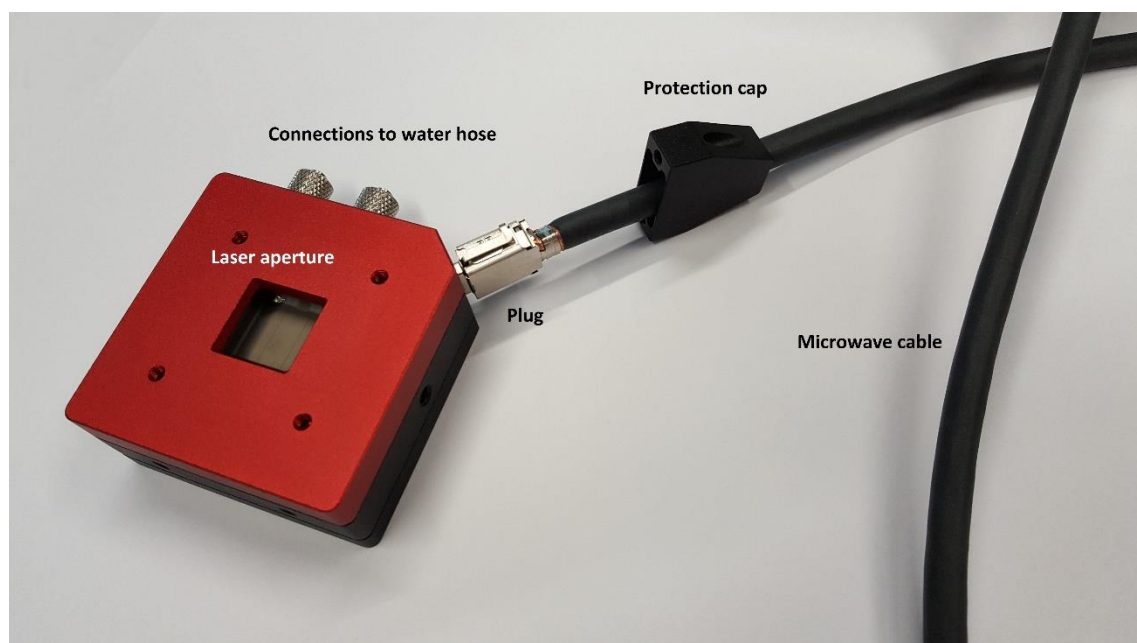

Figure 1: Blink HS sensor head with connection cable
**WARNING: never touch the HS sensor head active area (accessible from Laser aperture, Figure 1)**
1. Connect HS sensor head to water hoses, water flow according to specs (Figure 1)
2. Connect the cable 3 to the HS sensor head 1 (Figures 1 and 2)